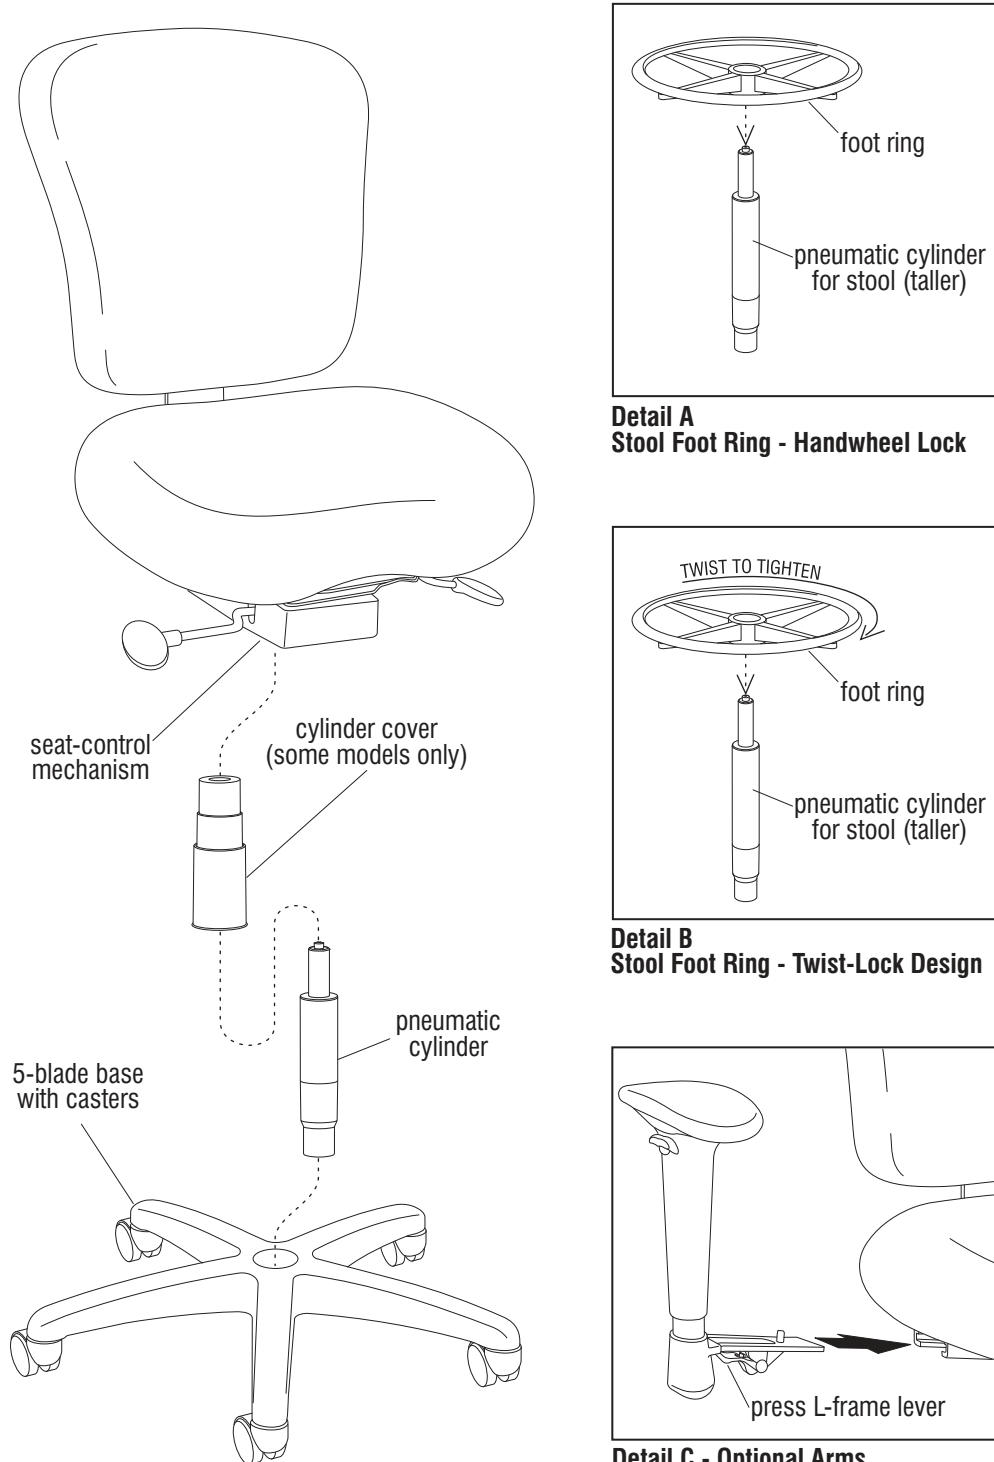

Figure 1
1. Carefully unpack all contents from packaging, then locate and identify the parts shown in Figure 1.
2. Turn the 5-blade base with casters to the upright position onto the floor. Orient the pneumatic cylinder as shown placing the larger end of the cylinder into the hole in the center of the base as illustrated (Figure 1).
3. Carefully position the seat assembly over the pneumatic cylinder, aligning the hole in the underside of the seat-control mechanism with the top, smaller end of the pneumatic cylinder. Press the seat assembly onto the pneumatic cylinder, then sit on the seat to completely drive the components together. While sitting, actuate the right-hand height-adjust lever to move seat to its lowest height position, then press lever and release seat pressure to adjust up to comfortable sitting height. Failure to do so could result in personal injury (Figure 1).